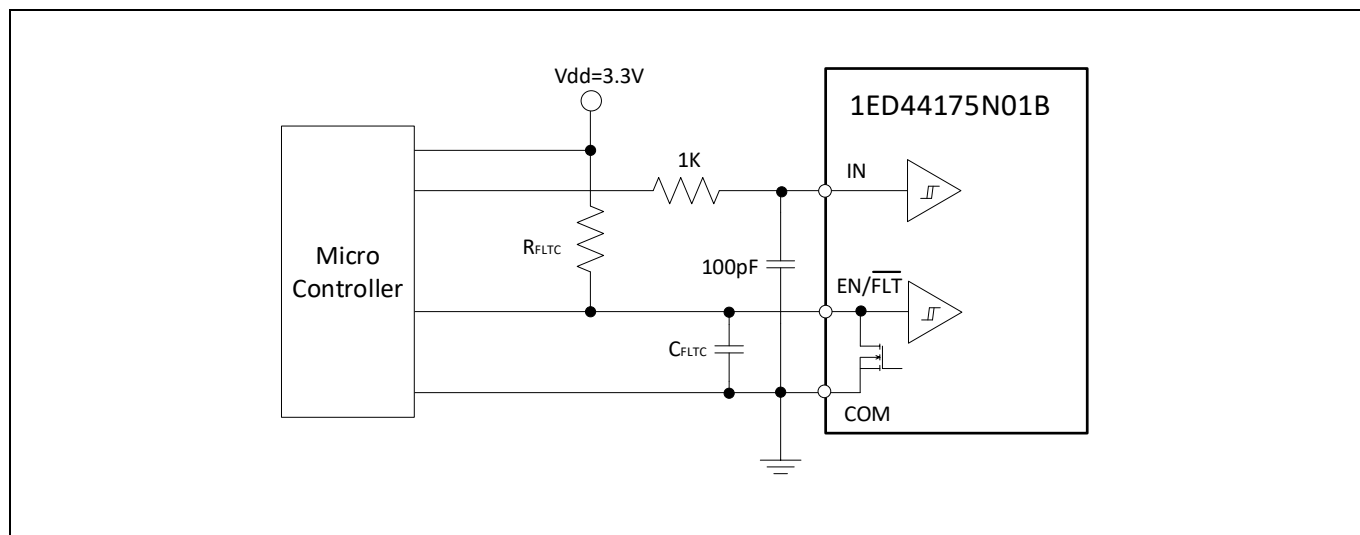
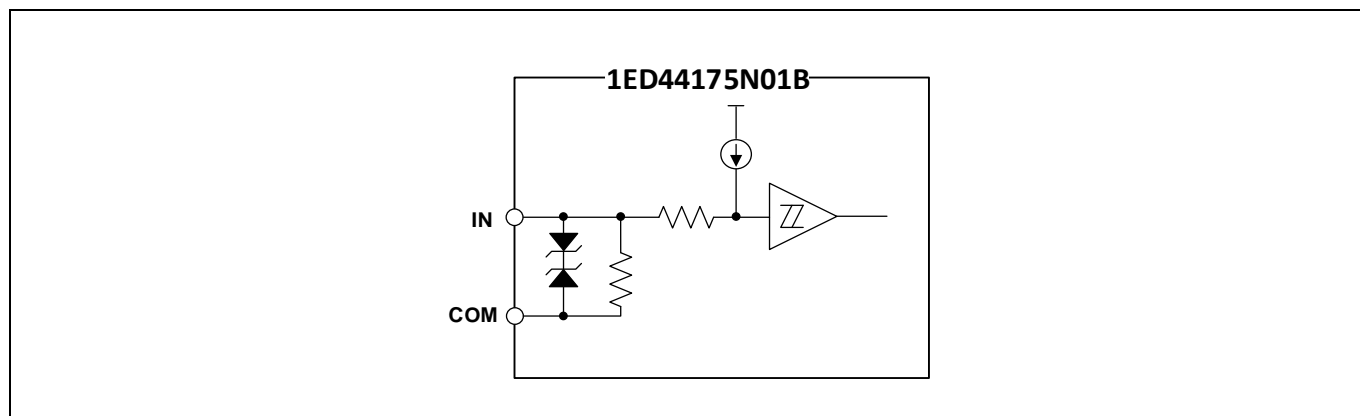

Figure 3 Recommended micro-controller I/O interface circuit
Figure 4 Simplified input structure diagram of 1ED44175N01B
- To prevent signal oscillations, an RC coupling is recommended as illustrated in Figure 3.
Figure 3 shows the I/O interface circuit between a micro-controller ( $\mu\text{C}$ ) or digital signal processing (DSP) and the 1ED44175N01B. The 1ED44175N01B input logic is active-high. The  $\text{EN}/\overline{\text{FLT}}$  output is an open-drain configuration. This signal should be pulled up to high by an external logic power supply with a pull-up resistor. RC (1 K $\Omega$  / 100 pF) is recommended for the “IN” pin to prevent input noise.
As shown in Figure 4, the 1ED44175N01B input signal section integrates a pull-down resistor. Therefore, when using an external filtering resistor between the micro-controller output and 1ED44175N01B input, pay attention to the signal voltage drop at the 1ED44175N01B input terminal. It should fulfill the logic "1" input voltage requirement. For instance,  $R = 1\text{ k}\Omega$  and  $C = 100\text{ pF}$  are recommended for the parts shown in Figure 3.